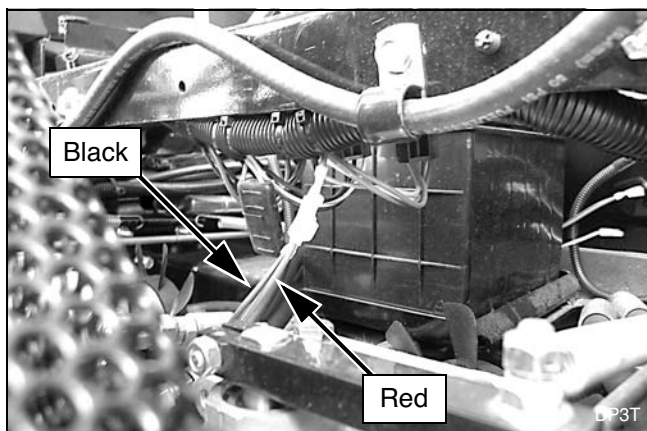

Figure 23. PowerTilt Cable Connection
4. Attach red and black wires from the tilt power cable to the auxiliary power connection under the right side of the seat support channel. Red to purple; black to black. See Figure 23.